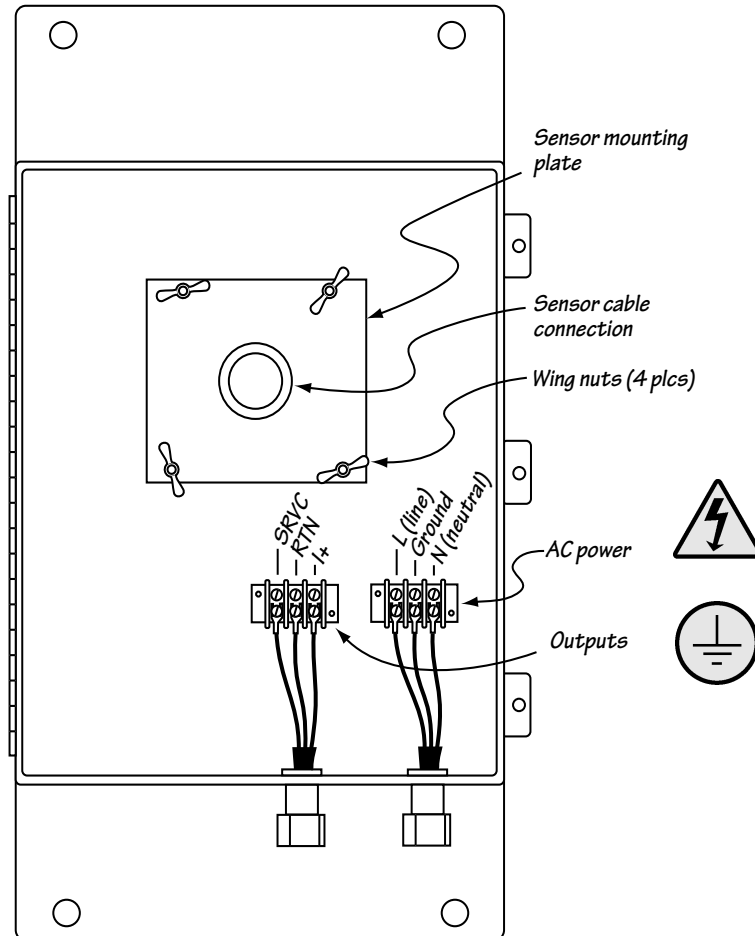

Figure 7 – Wiring and sensor replacement
| Figure 7 | Wiring and sensor replacement - - - - - | 11 |
Input power wiring enters through the bottom edge of the unit and connects to the right-hand terminal block as shown in Figure 7.
The E4-1111H's output terminals are located inside the unit's front door. Cabling is brought in through the bottom edge of the unit and connected to terminal blocks as shown in Figure 7.
Connect to the terminals labelled **SRVC** and **RTN** as shown in Figure 7.
3. Unplug the sensor cable from the end of the sensor probe as shown in Figure 7.
4. Unscrew the four wing nuts shown in Figure 7.